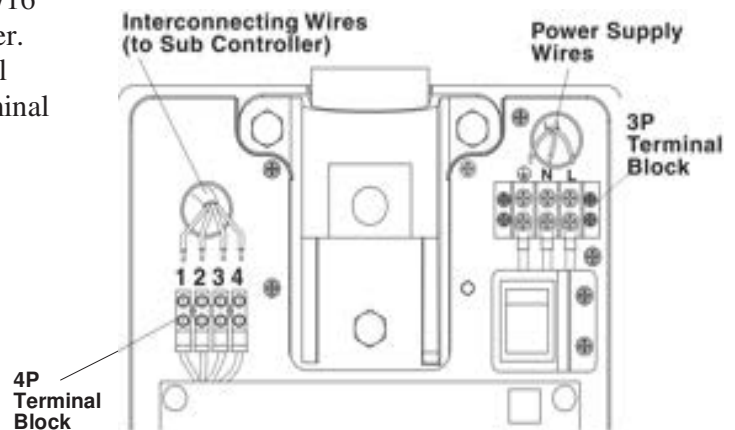

Fig. 3-7 Wires Connection in Main Controller
3. Cut the wires to workable length and strip 3/8" of insulation for power supply wires and 3/16" for interconnecting wires for Sub Controller. Connect power supply wires to **3P** terminal block and interconnecting wires to **4P** terminal block. **(Fig.3-7)**
4. Reattach the restriction plate. **(Fig.3-7)**